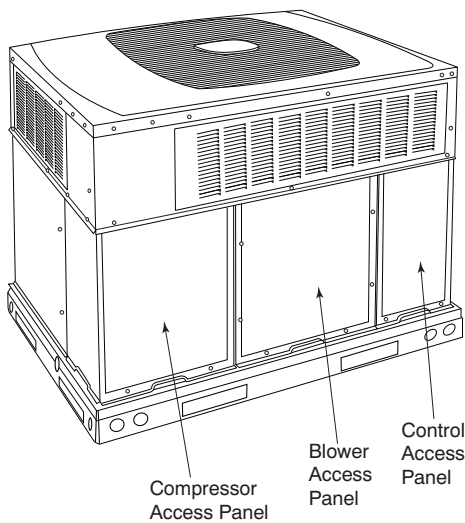

Fig. 24 - Unit Access Panels
3. Remove control access panel (See Fig. 24).